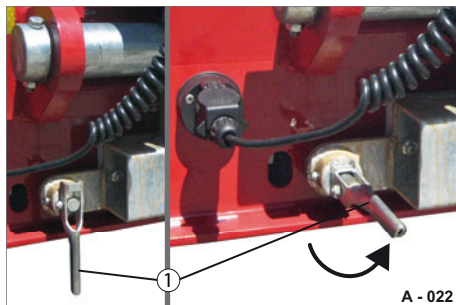

Fig. 22 Releasing ramp
- Open the spring bar (Fig. 22/1).
- ▶ Leave the spring bar open with mechanical ramps (see Fig. 22).